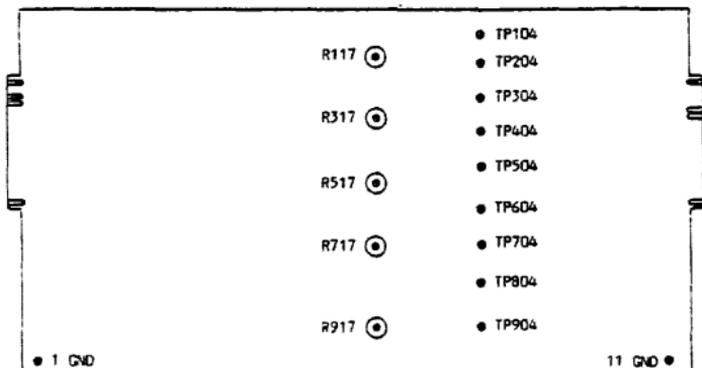

FIGURE 14
- 5211 - TP104 on the Data H Board (see Figure 14).